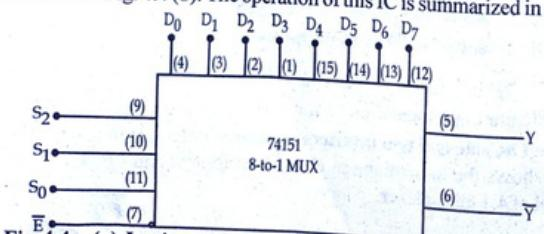

Fig. 4.4 : (a) Logic symbol of IC 74151 - 8-to-1 multiplexer
IC 74151 is an 8-to-1 multiplexer with eight data inputs ($D_0 - D_7$), three select input lines ($S_2 - S_0$) and a single output (Y). It also has an enable input \bar{E} and provides both normal and inverted outputs (i.e. Y and \bar{Y}). Since $2^3 = 8$, three bits are required to select any one of the eight data bits. When $\bar{E} = 0$, the select inputs $S_2 S_1 S_0$ will select one of the data input to pass through the output Y. When $\bar{E} = 1$, the multiplexer is disabled. The logic symbol of IC 74151 is shown in fig. 4.4 (a) and its logic diagram is shown in Fig. 4.4 (b). The operation of this IC is summarized in truth Table.